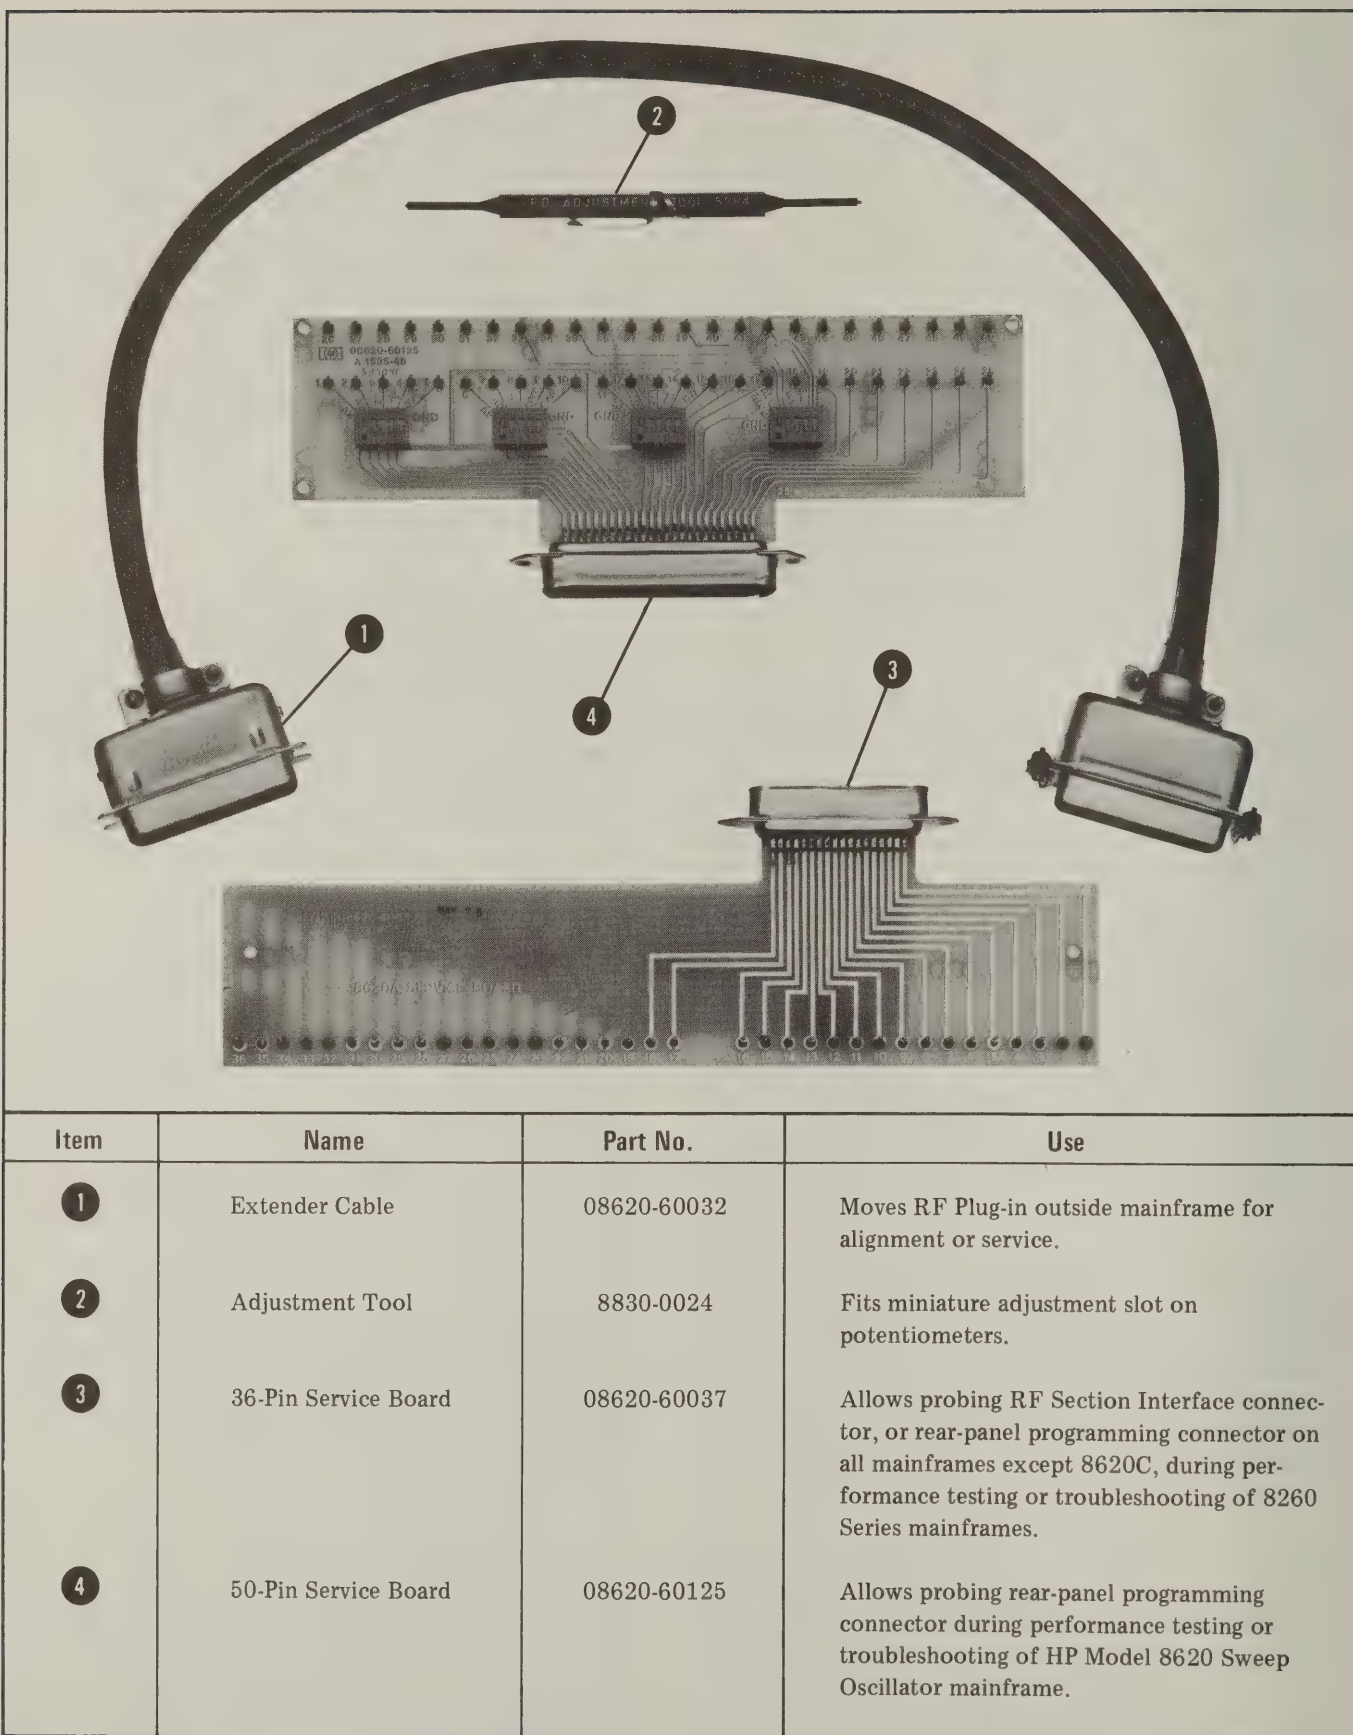

Figure 1-5. Service Accessories, HP Part Number 08620-60124
1-41. A service accessories package containing a plug-in extender cable, an adjustment tool, and two service boards may be obtained from Hewlett-Packard by ordering Service Accessories Part No. 08620-60124. This is supplied for convenience in aligning and troubleshooting the mainframe, the RF Section and oscillator modules, and an RF Plug-in units. Parts contained in the service accessories package are listed in Figure 1-5.
** These parts are included in Service Accessories package, 08620-60124 (Figure 1-5).